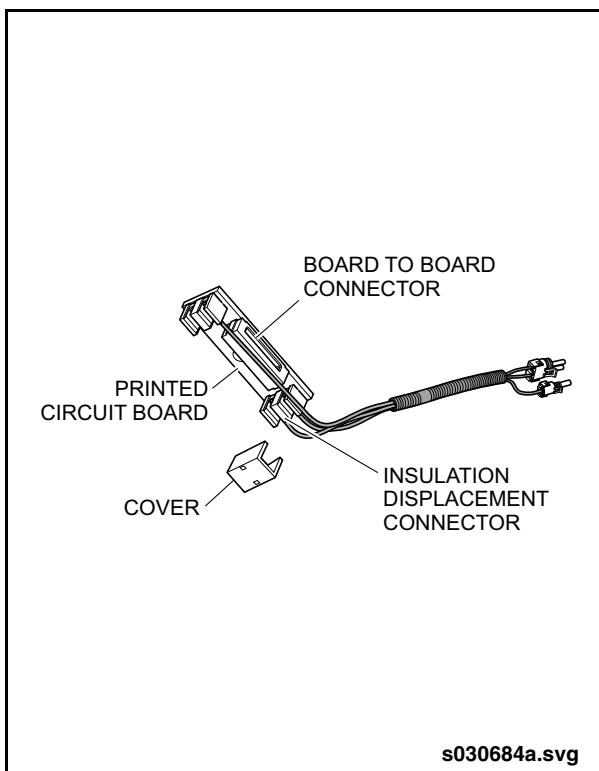

Fig. 9-58: Finger Board Assembly
2. Locate the finger board which is typically installed at the beginning of a bank of lighting boards. See "Fig. 9-58: Finger Board Assembly" on page 90.